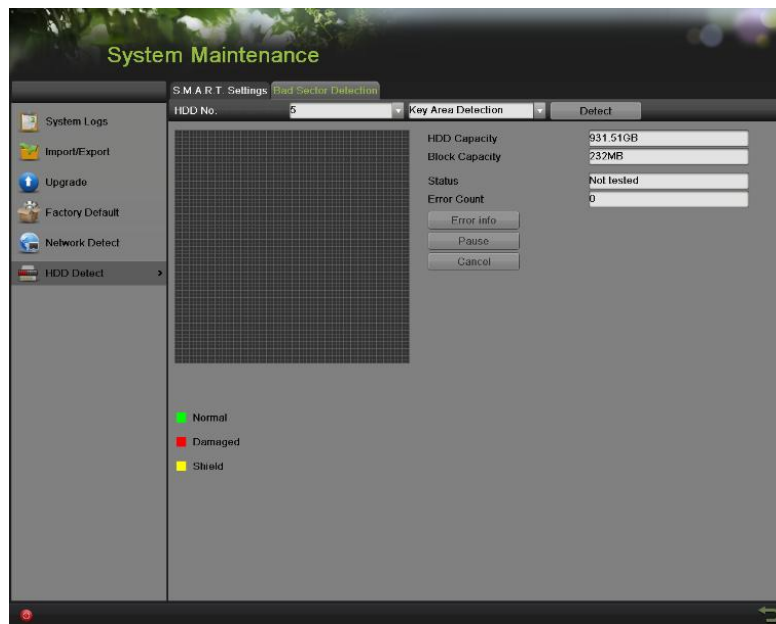

Figure 135 Bad Sector Detection Interface
2. Select the Bad Sector Detection tab, as shown in Figure 135.